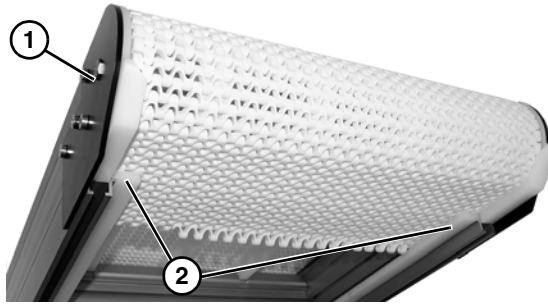

Figure 12
3. Wrap belt around idler tail (Figure 12, item 1).
4. Install belt around lower frame section and above lower wear strips (Figure 12, item 2).